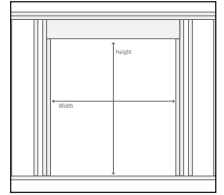

fig. 1
- Verify rough opening is plumb and level. It is very important that the sill plate is level. (**fig. 1 & 2**)